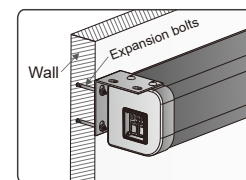

Figure 3
3. Put the bolts through the installation brackets and fix the screen on the wall (Figure 3 - 4).